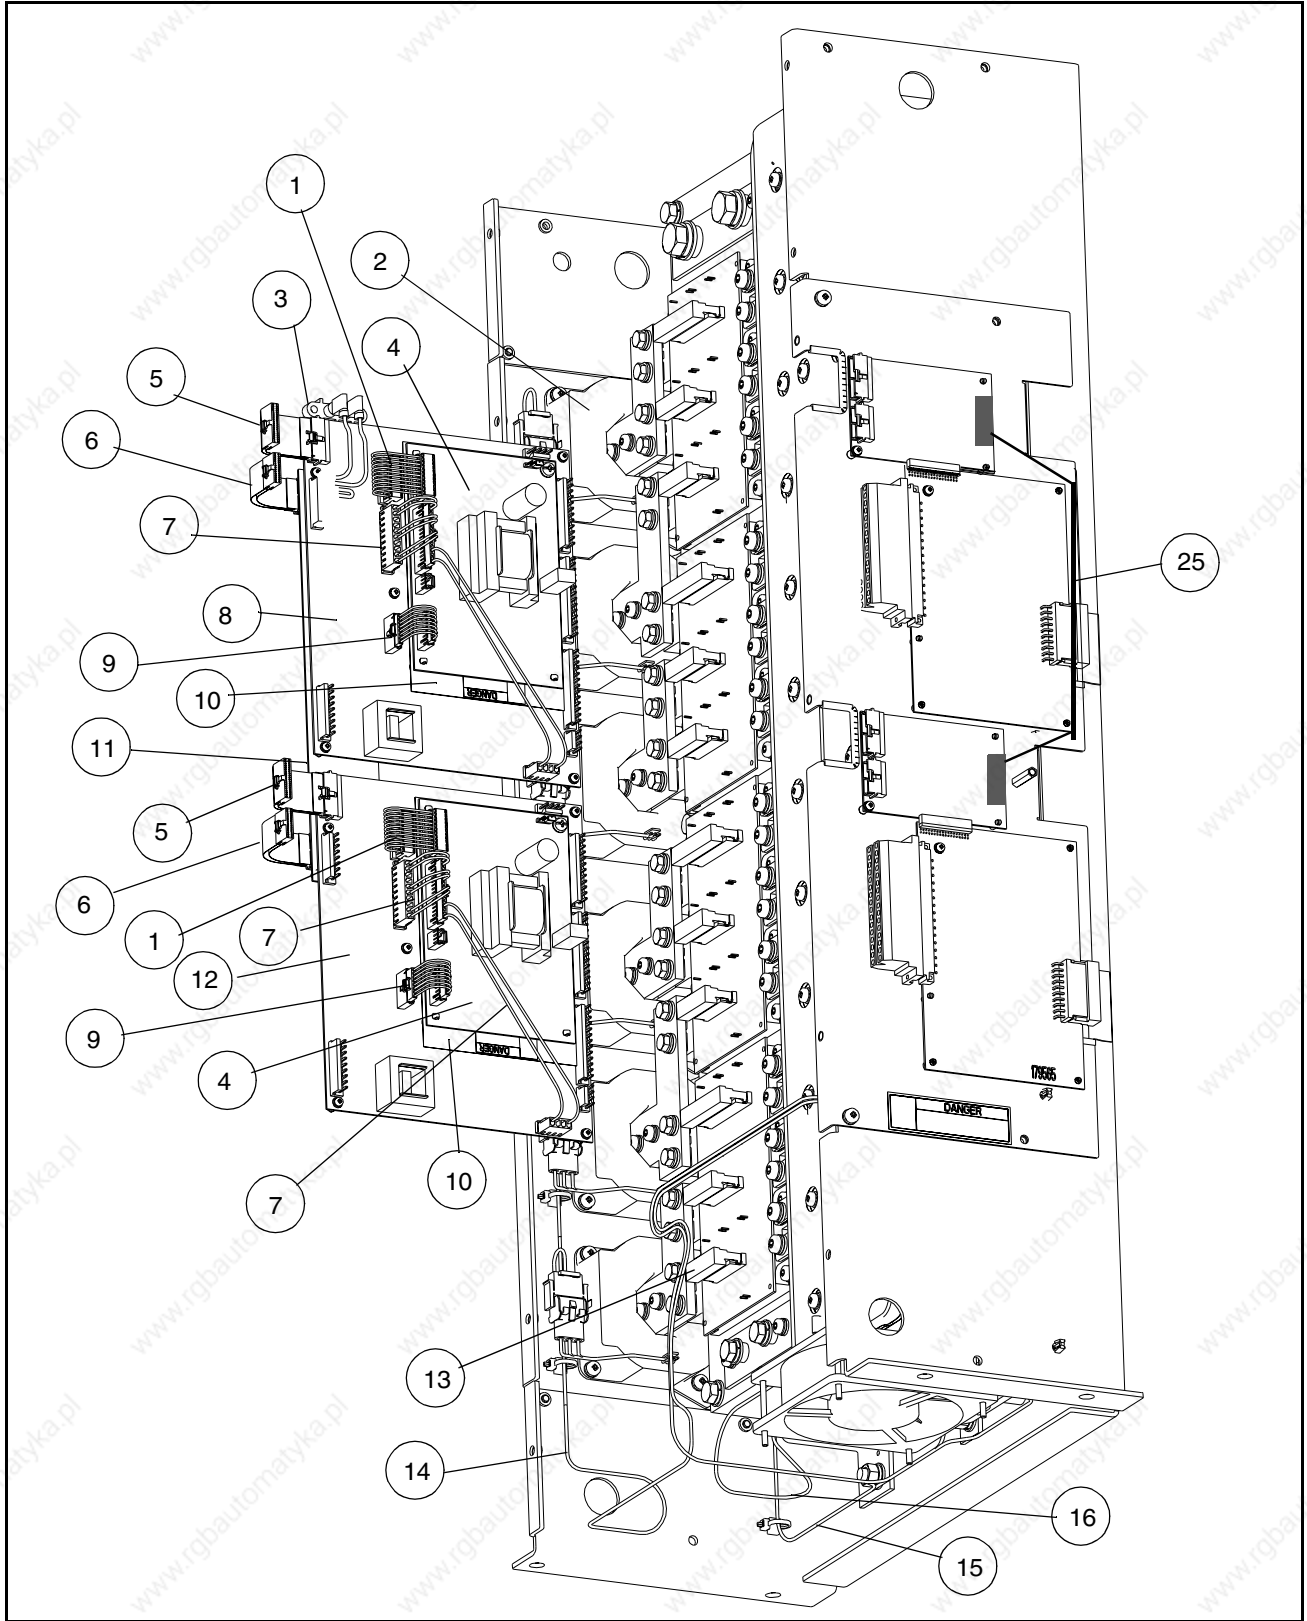
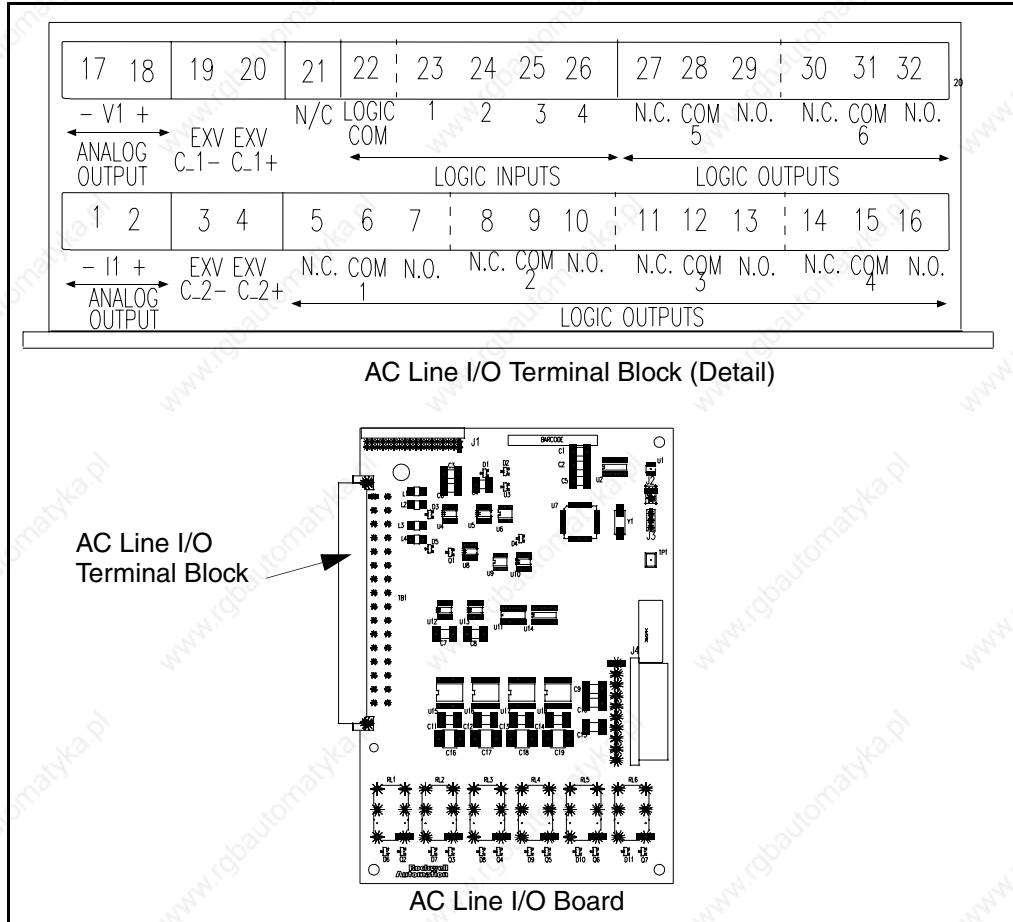

Figure 2.4 – Power Module Component Locations - Door Open (Frame 3)
Figure 2.9 – AC Line I/O Board (Frame 3)
The power module section contains the following main components. The numbered items listed below provided correspond to the numbers used in figures 2.4 and 2.5. Replacement parts are listed in chapter 10.
The following signals are available at the AC Line I/O board terminal block. The AC Line I/O board is labeled as item 7 in figure 2.4. Refer to figure 2.9 for terminal identification.